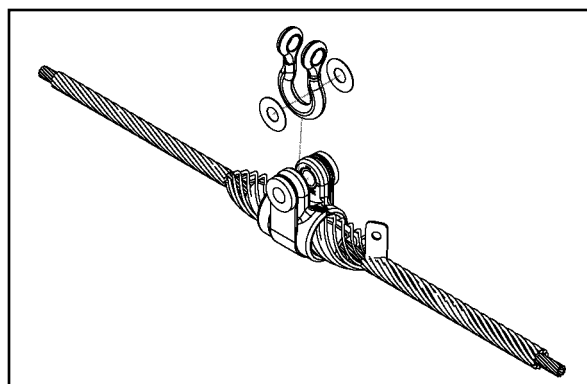

FIGURE 14
- 4.02 Place an isolation washer on both sides of the hardware fitting (anchor shackle, Y-clevis, etc.) and position the hardware fitting and isolation washers between the ears of the housing. (Figure 14)